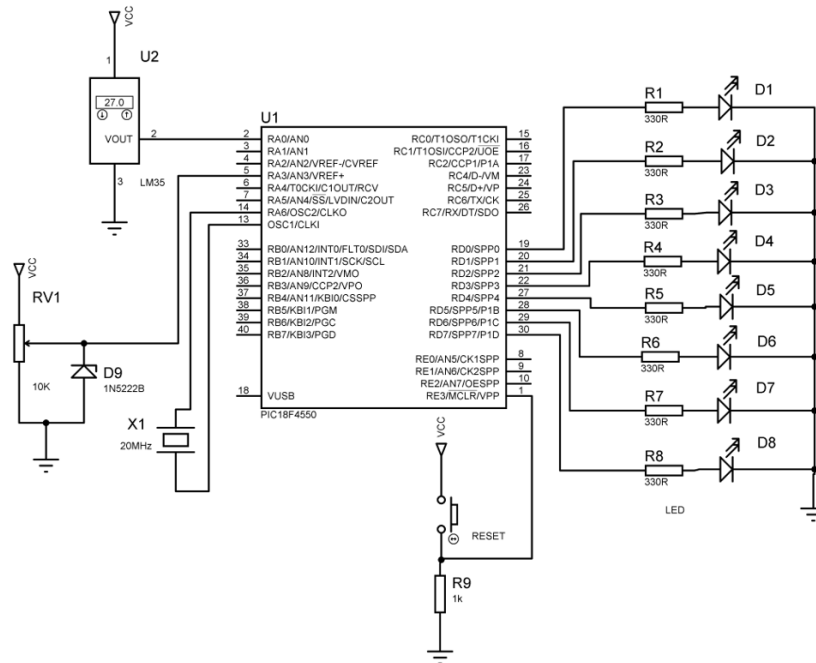

Figure 2.1: Temperature schematic circuit
a) As a mini-project for DEC40053 embedded system and applications subject, students are given the task to construct the monitoring temperature circuit system that will use PIC18F4550 as the main microcontroller. The system has ON/OFF push button switch as a manual reset switch, temperature sensor LM35 and a Zener diode 1N5222B (2.5V) is connected parallel the variable resistor 10K ohm to regulate the system to be 2.5V at pin RA3. The system can be used to read and display the temperature using 8 unit of LEDs' to show the temperature in binary numbers on PORTD. The requirements for the design are when the analog signal (RA0) is sending to the microcontroller, and it will display the temperature value on the LED. The schematic diagram of the temperature circuit is given in figure 2.1 below.